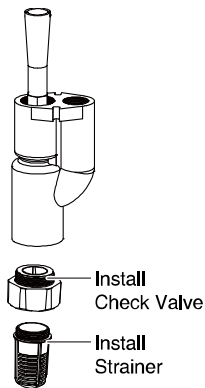

Figure 5
5. Install the check valve and strainer on the single-port end of the ejector (the bottom of the ejector - See Figure 5).